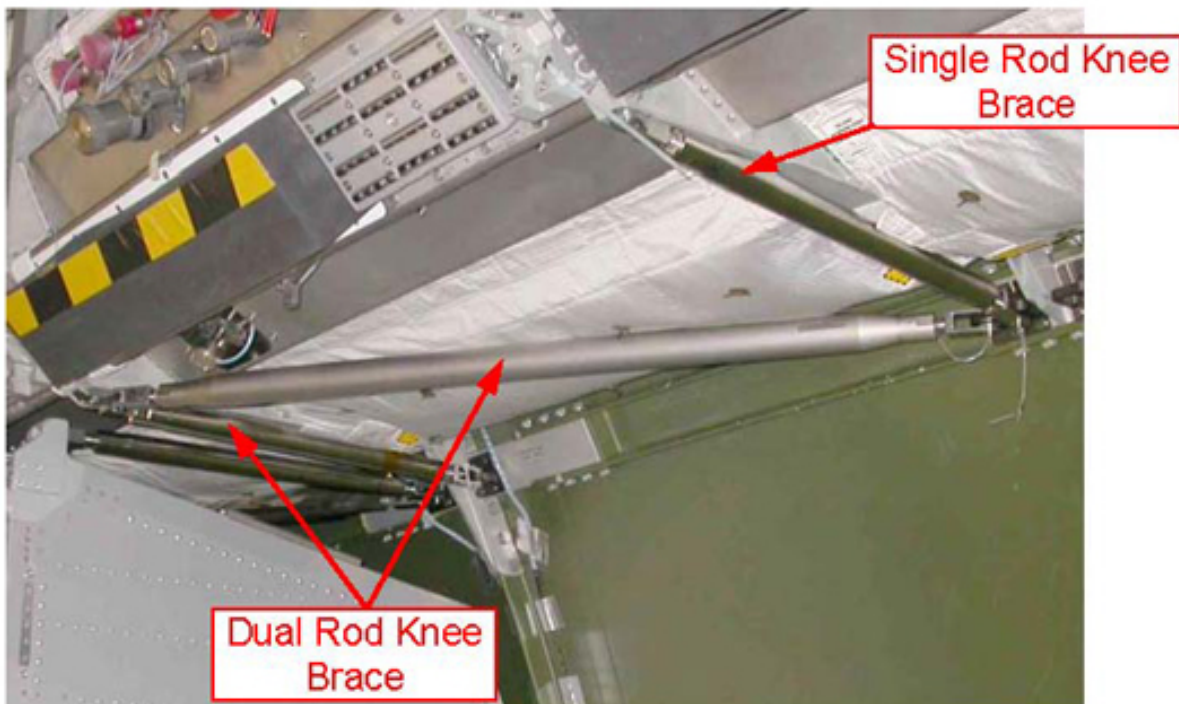
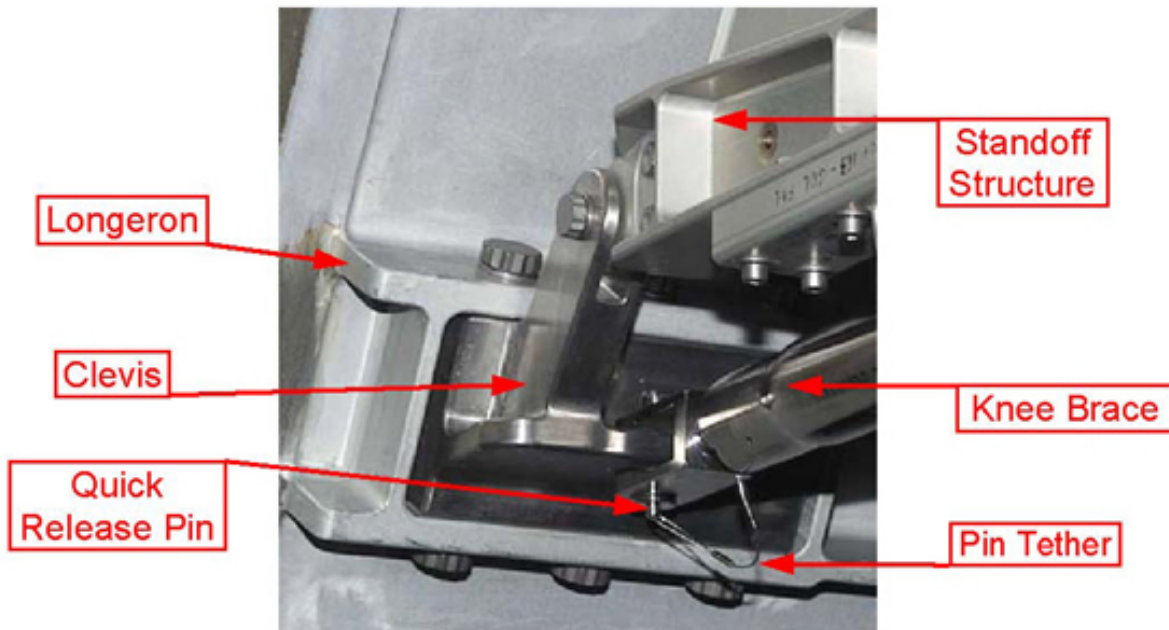

Figure 10. Knee Brace Assembly Installed, Typical.
Figure 11. Knee Brace Attachment to Stand-off, Typical.
Refer to Figures 10 and Figure 11.
*      |      Refer to Figure 10.